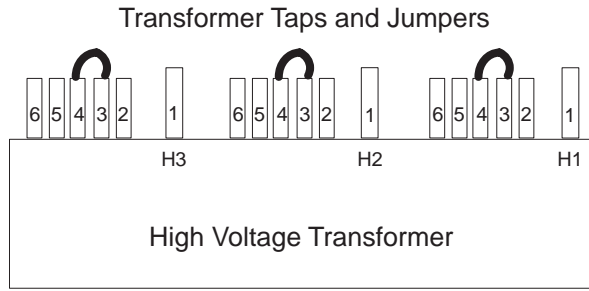

Figure 5-3 PDU Tap Positions (Rear)
- 2.) After you determine the nearest nominal line, verify the tap connections match (refer to Table 5-1 and Figure 5-3 for tap locations).